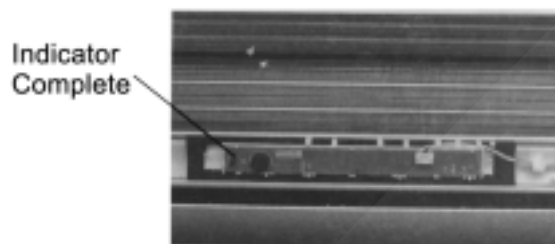
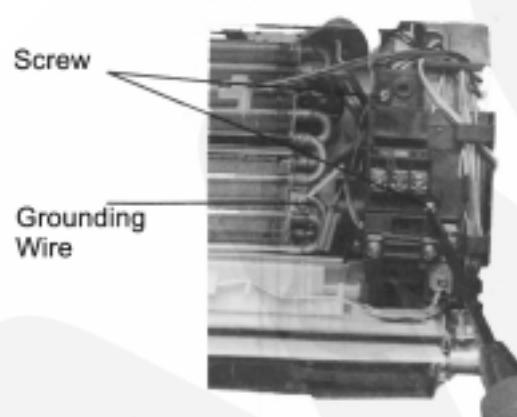
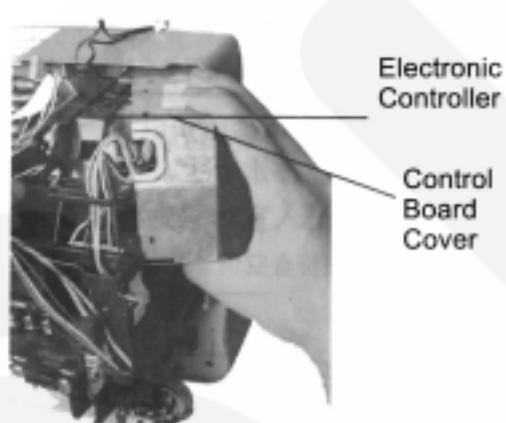

Fig 2
Fig 4
Fig 3
2. Release all the connectors and screws to remove the electronic controller.(Refer to Fig 2, Fig 3, Fig 4)